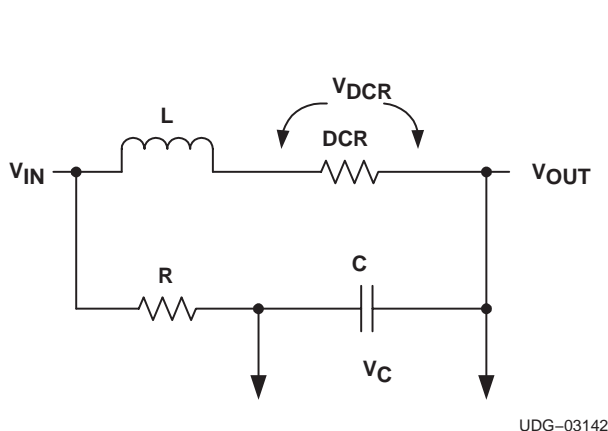

Figure 10
Inductor DCR current sensing is a known lossless technique to retrieve a current proportional signal. Equations (14) and (15) show the calculation used to determine the DCR voltage drop for any given frequency. (See Figure 10)
The output signal generated by the network shown in Figure 10 is temperature dependant due to positive thermal coefficient of copper specific resistance as determined using equation (17). The temperature variation of the inductor coil can easily exceed 100°C in a practical application leading to approximately 40% variation in the output signal and in turn, respectively move the overcurrent threshold and the load line.